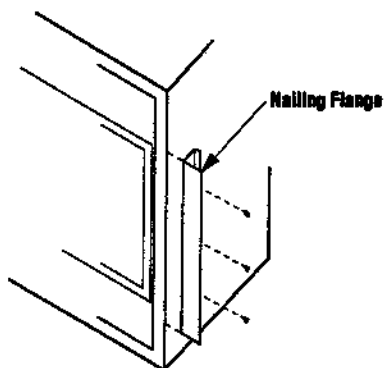

Figure 13
**Step 3.** Remove the nailing flanges from the lower control compartment and install in place with three (3) screws each. Align with the three holes on each side of the appliance (refer to Figure 13).